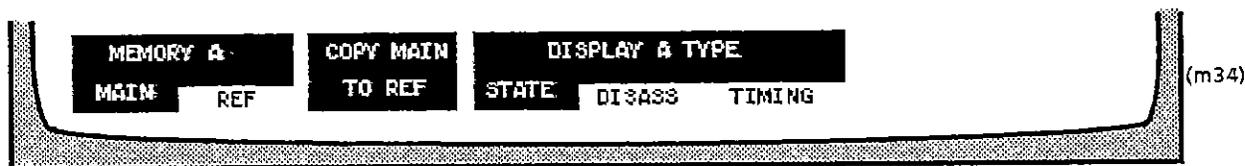

Fig. 7-4
- STATE:** The recorded data are successively displayed clock by clock. The time axis is vertically directed toward the bottom (see fig. 7-4). The display format is specified in the CONFIGURATION menu (section 7.3.1).
Now press either the softkey SPECIFY A or SPECIFY B. One of the two submenus DISPLAY SELECT SPECIFY is then displayed. Fig. 7-4 shows the submenu for display A.
In the STATE display, the recorded data are displayed clock by clock in successive order in the form of a list. The time axis is vertically directed toward the bottom (see Fig. 7-4). The display format is specified in the CONFIGURATION menu.